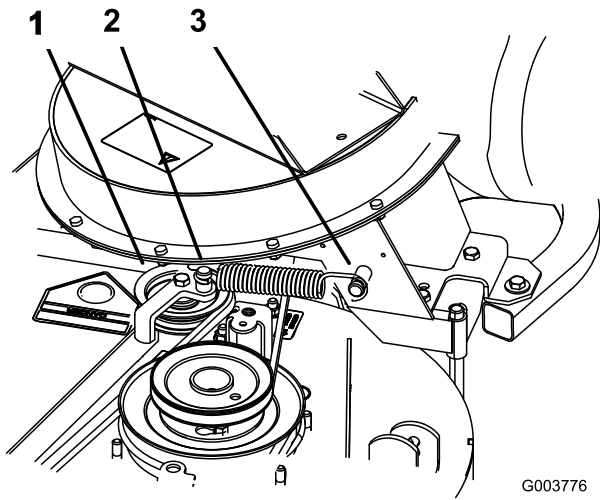

Figure 44
8. Install the spring as shown in Figure 44.